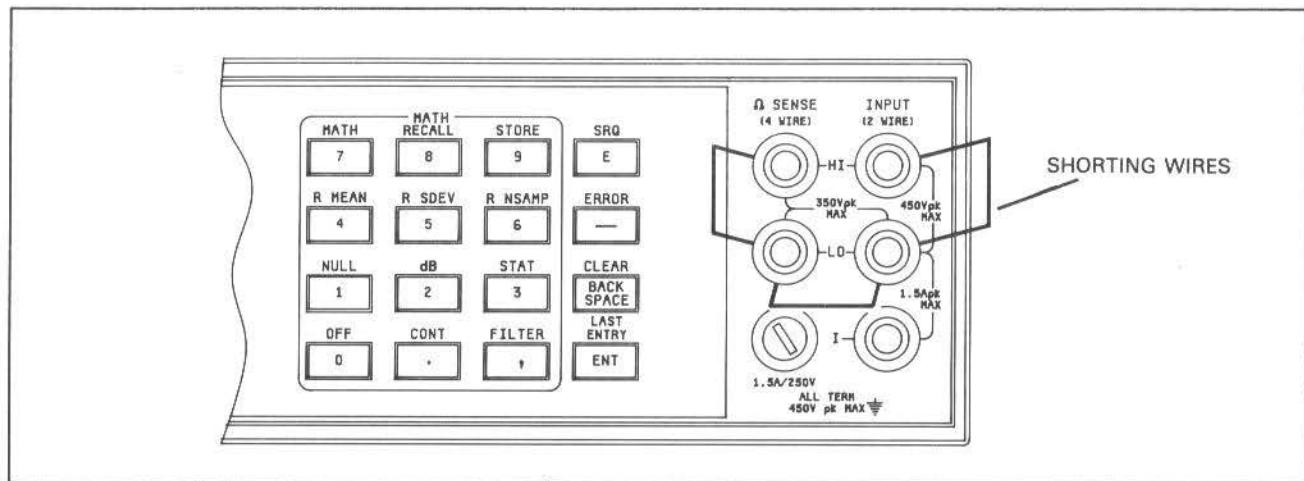

Figure 5-1. Input Connections for Four-Wire Ohms Offset Calibration
5-32. Equipment Required. A low thermal short (copper wire) is required for this procedure. (Refer to Figure 5-1).
- b. Connect the short across the Front Panel HI and LO Input Terminals and the Ω Sense HI and LO terminals as shown in Figure 5-1.